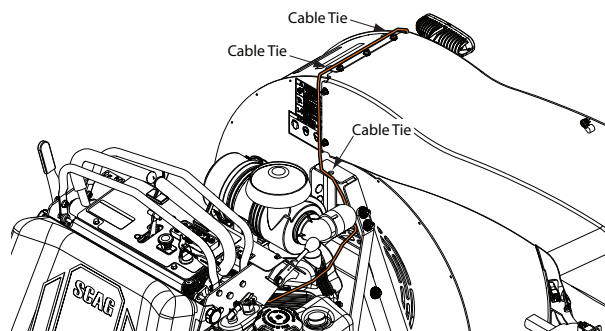

Figure 4. Wire Harness Routing
8. Route the wiring harness, use cable ties(3) to secure the wire harness. See Figure 4.